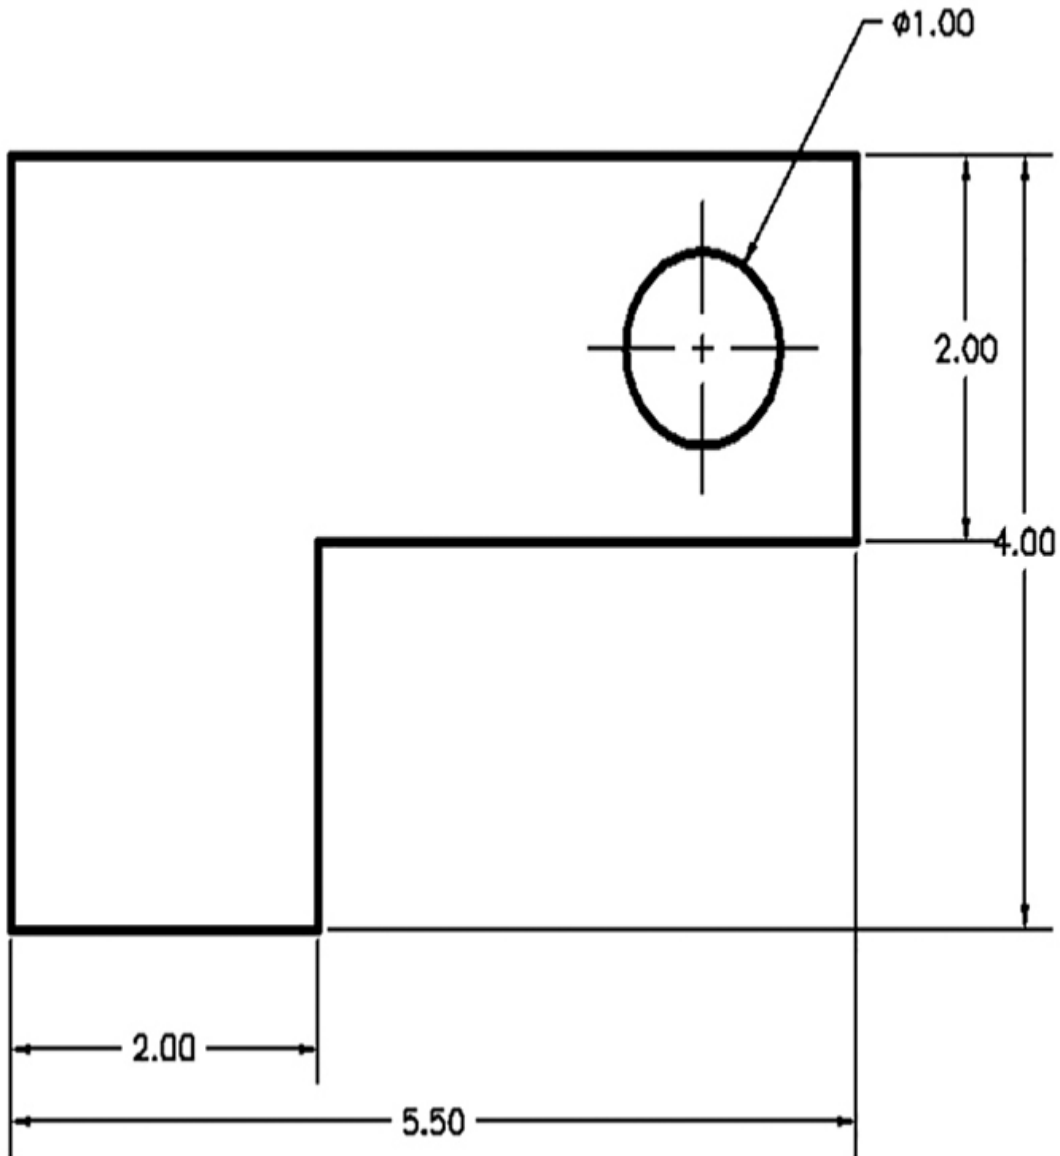

Figure 2-46
- 6** AutoCAD stretches the longest line to a length of 5.5 (see Figure 2-46).